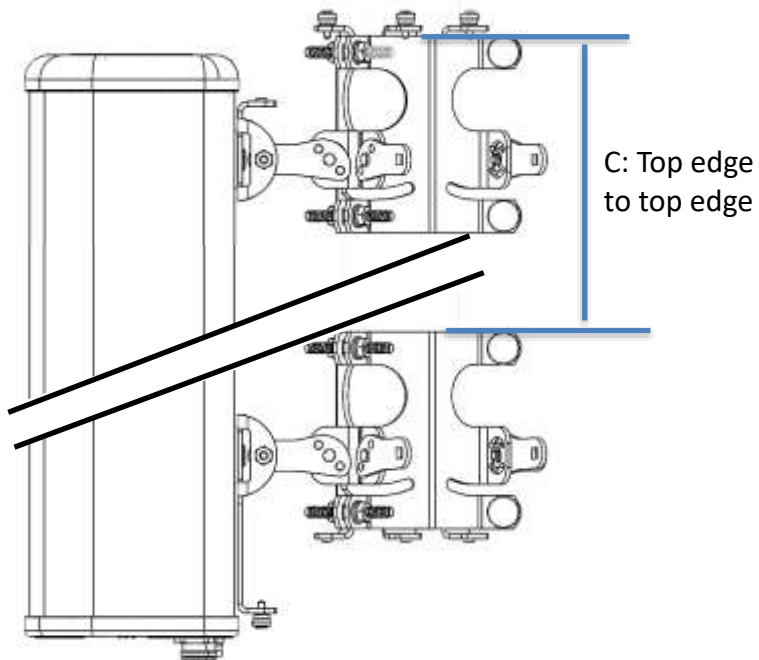
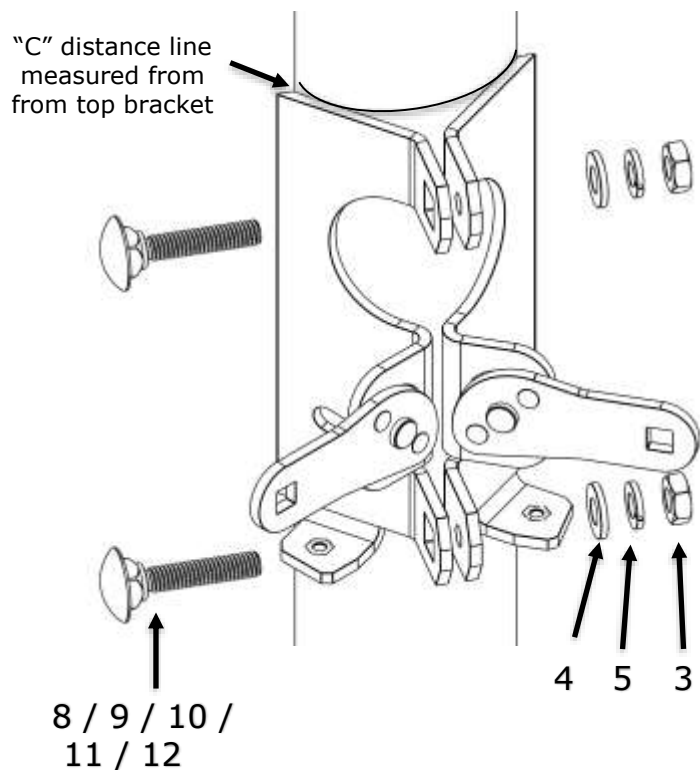
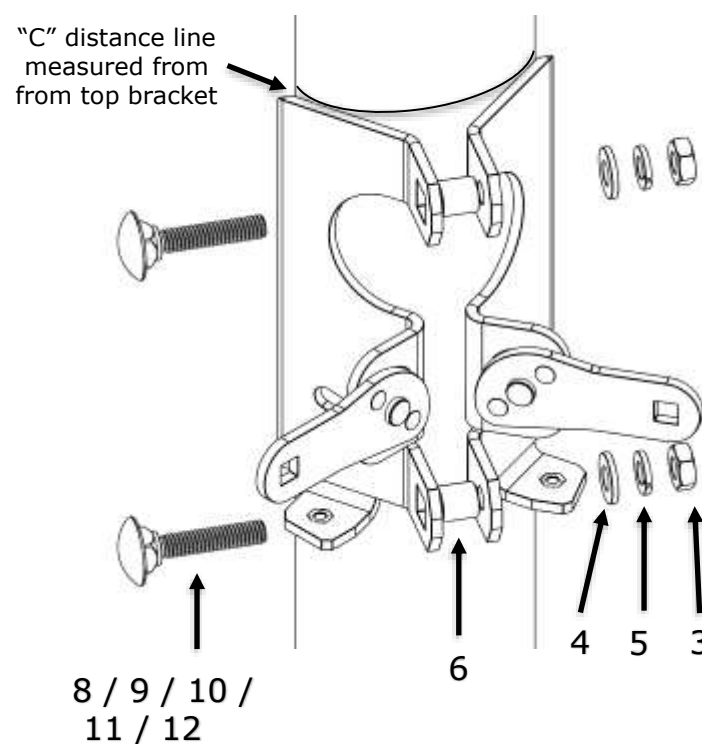

Figure 9: Attach top brackets to pole – 3.5" diameter shown as example
Figure 11: Attach bottom brackets to pole – 3.5" diameter shown as example
Figure 12: Attach bottom brackets to pole – 4.0" diameter shown as example
- Using Figures 9 and 10 and Table 6, measure "C" in. from top edge of top bracket to top edge of bottom bracket, and mark placement for bottom brackets along the circumference of the pole.
5. Install three bottom brackets around the pole with selected hardware. See *Figure 11* (example 3.5" pole diameter) and *Figure 12* (example 4" pole diameter) Align the top edge of the bottom brackets to the mark made in Step 4, *Figures 9 and 10*.